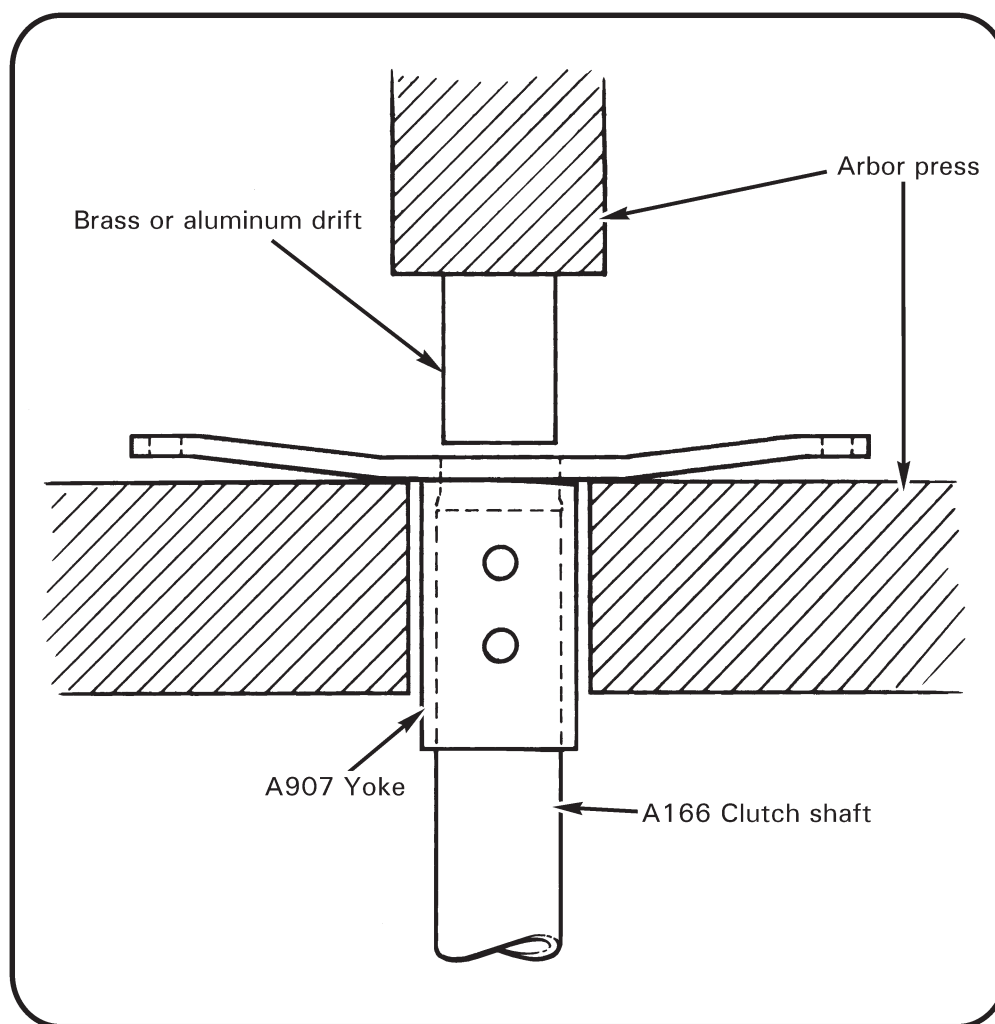

FIGURE 7-6A A907 YOKE REMOVAL
- a. (Preferred method) If a press is available, position clutch assembly in press per Figure 7-6A. Ensure brass or aluminum drift fits against outer rim of clutch shaft and not against inner spacer. Press clutch shaft out of yoke.